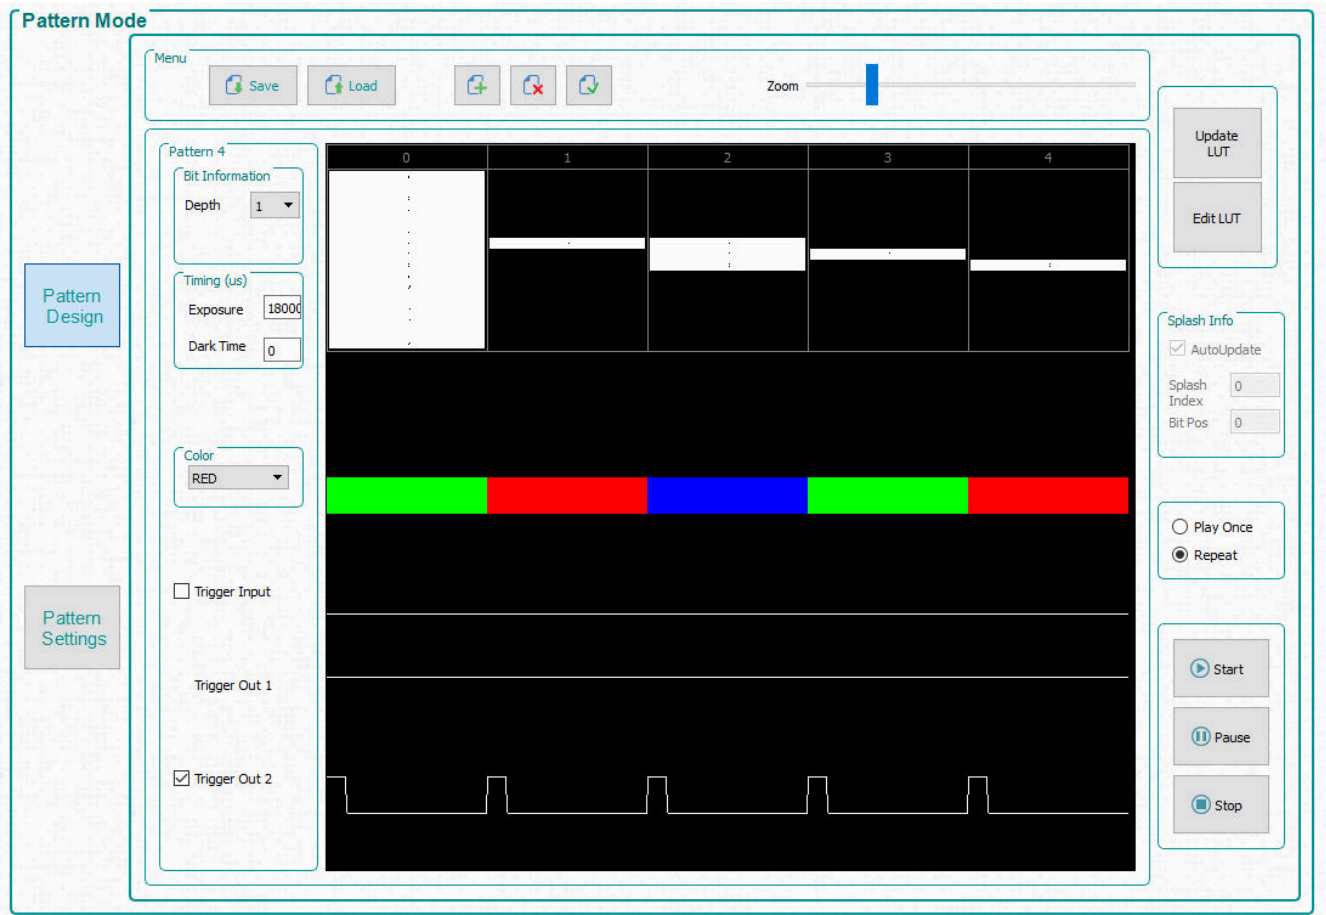

Figure 4-15. DMD Block Load Pattern Sequence
4. The pattern design looks similar to Figure 4-15.